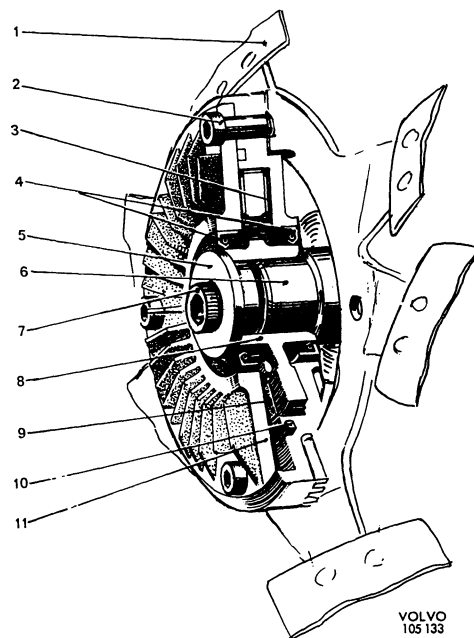
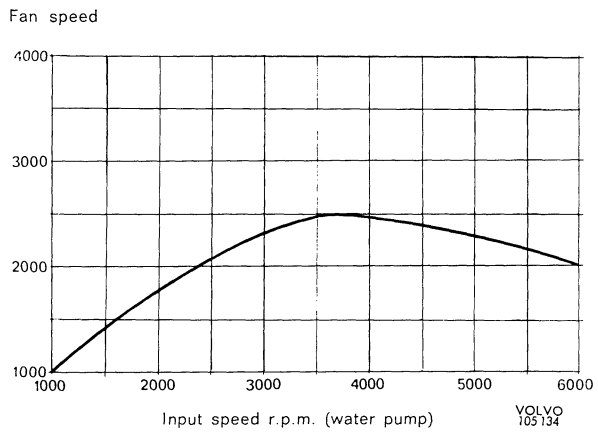

Fig. 2-99. Viscous fan
Fig. 2-105. Curve for fan coupling slip
The fan is a speed-regulated fan, a so-called viscous type (see Fig. 2-99).
The function is to ensure that the fan blades do not exceed a certain speed even if the engine speed is exceeded. See Fig. 2-105. The six fan blades are mounted asymmetrically to keep down the noise level. The fan coupling consists of the shroud (11, Fig. 2-99) in which the fan blades (1) are secured with the bolt (2). The shroud (11) has two halves which, however, cannot be separated for repairs, the fan coupling then being replaced complete. The hub (8) has a light fit on the water pump flange (6) and is locked by means of the center bolt (7). The hub is provided with a slip disc of friction material (9) surrounded by oil. During idling and at low speeds, the slipping is insignificant, so that the fan provides an air current for good cooling. When the ingoing speed (that of the water pump) exceeds the fan speed, the slipping increases (see Fig. 2-105). With this arrangement the fan speed should never exceed about 2500 r.p.m. The fan noise output would then be low compared
The fan coupling function can be checked with a stroboscope with variable blinking frequency. Make a mark on the fan and one on the water pump pulley. Find out the speed relationship between fan and pulley by means of the stroboscope. The fan speed should follow the speed of the water pump according to the curve given in Fig. 2-105.